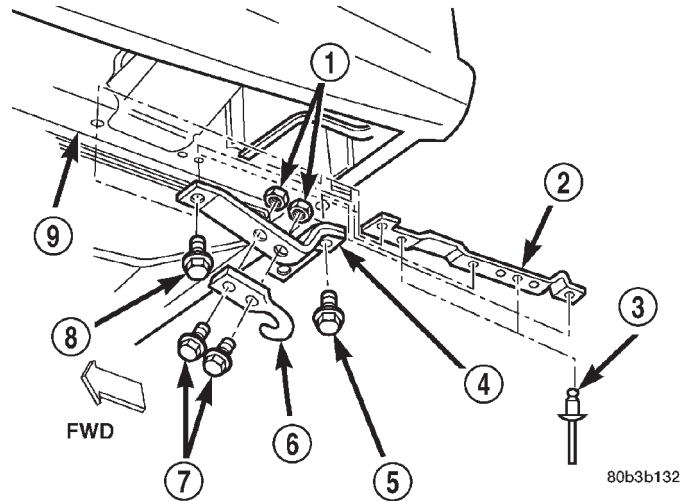

Fig. 6 Rear Tow Hook
- (1) Remove bolts that attach tow hook bracket and tow hook to frame rail (Fig. 6).
- (2) Remove bracket and tow hook from frame rail.